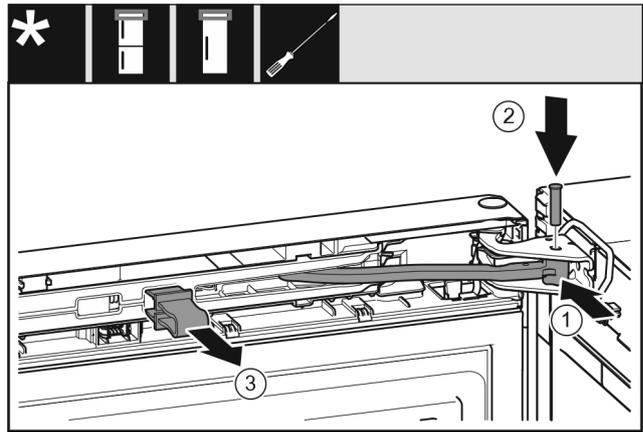

Fig. 26
- ▶ Turn the hinge in the bearing bracket. *Fig. 26 (1)*
- ▶ Insert the bolt in the bearing bracket and hinge. Make sure that the latching lug sits correctly in the groove. *Fig. 26 (2)*
- ▶ Remove the locking device. *Fig. 26 (3)*